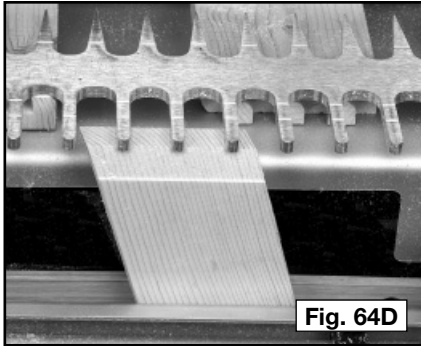

Fig. 64D
- Step 2** - With the angled insert attached to the base of the jig, mount the tail board with the outside surface of the board facing the jig and with the board centered between the fingers of the template (Fig. 64D).